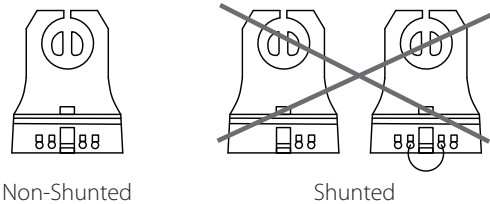

Fig: 6
2. If applicable, replace lamp holders at power end with non-shunted lamp holders (*Fig.6*).